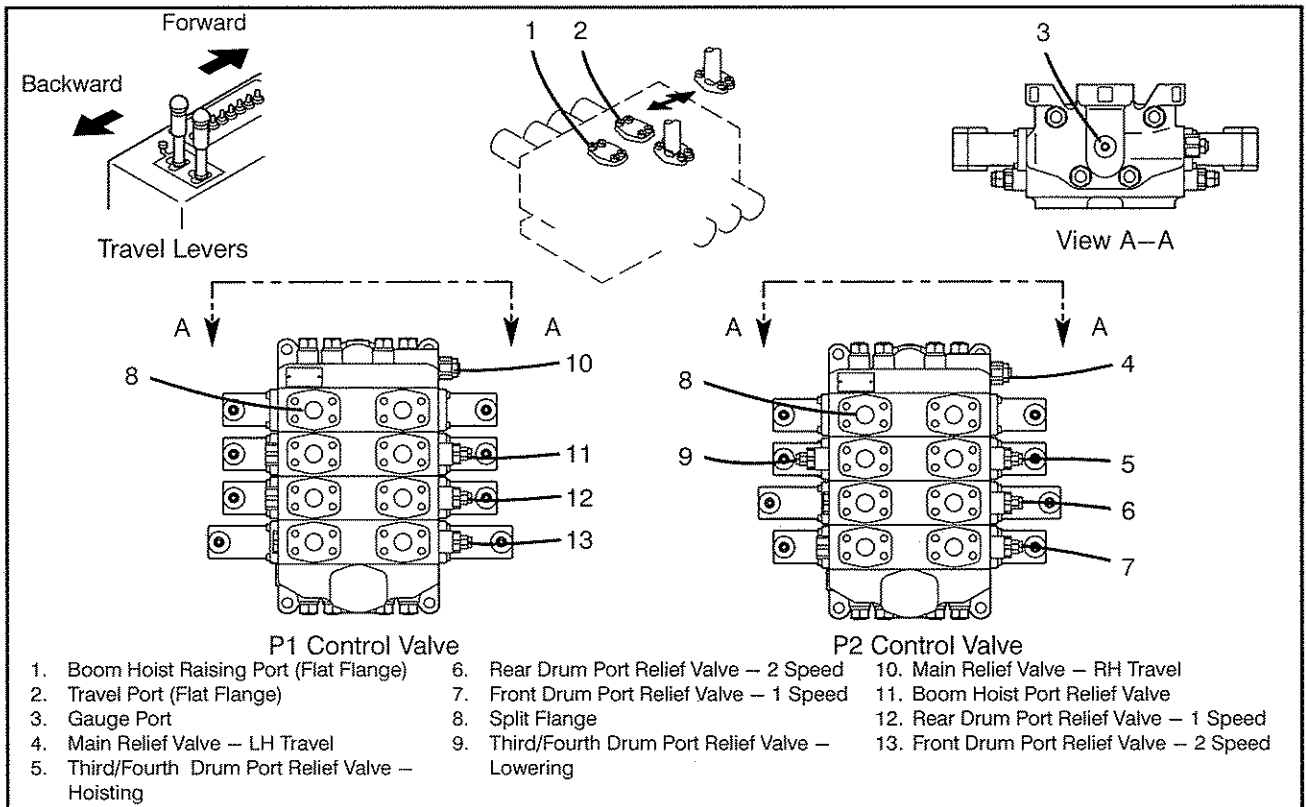

Figure 3-6
Refer To Chart "A" and Figure 3-6 thru Figure 3-10 for relief valve and quick disconnect fitting locations.
4. Install a pressure gauge in the gauge port on the P1 control valve. Refer to Figure 3-6.